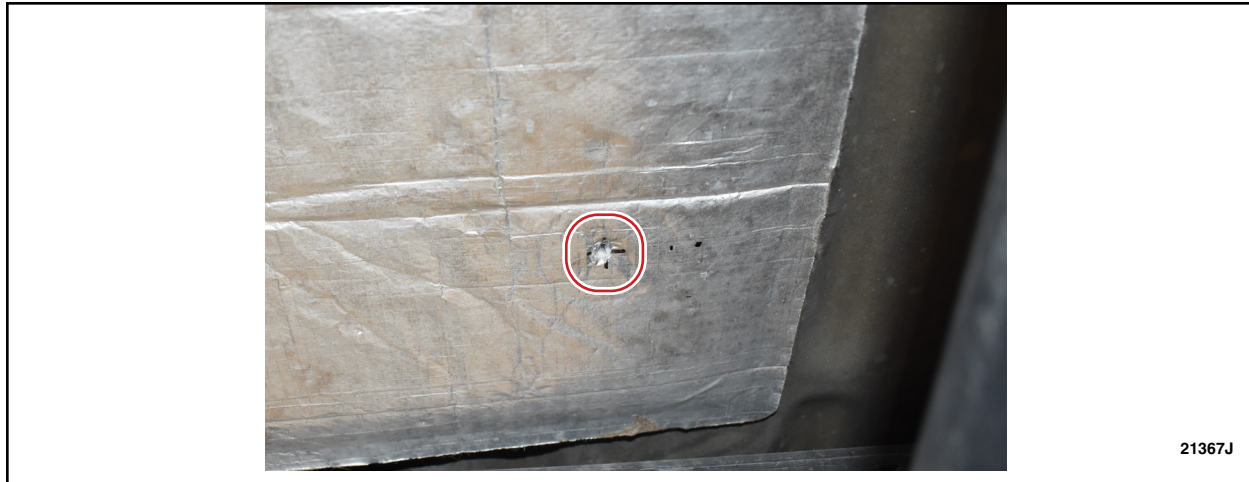

FIGURE 7
10. Using the 6.7mm (17/64 in) drill bit, drill a hole through the insulator and into the floor. See Figure 7.